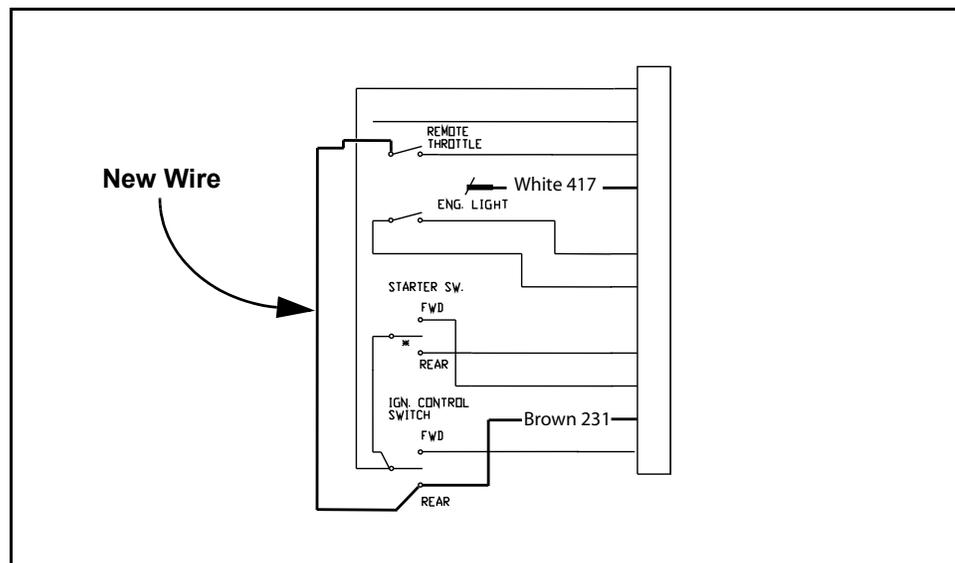

FIGURE 1-4 TYPE A - REWORKED
6. Verify that the Brown 231 terminal has continuity to ground. Reworked configuration should appear as shown in Figure 1-4.